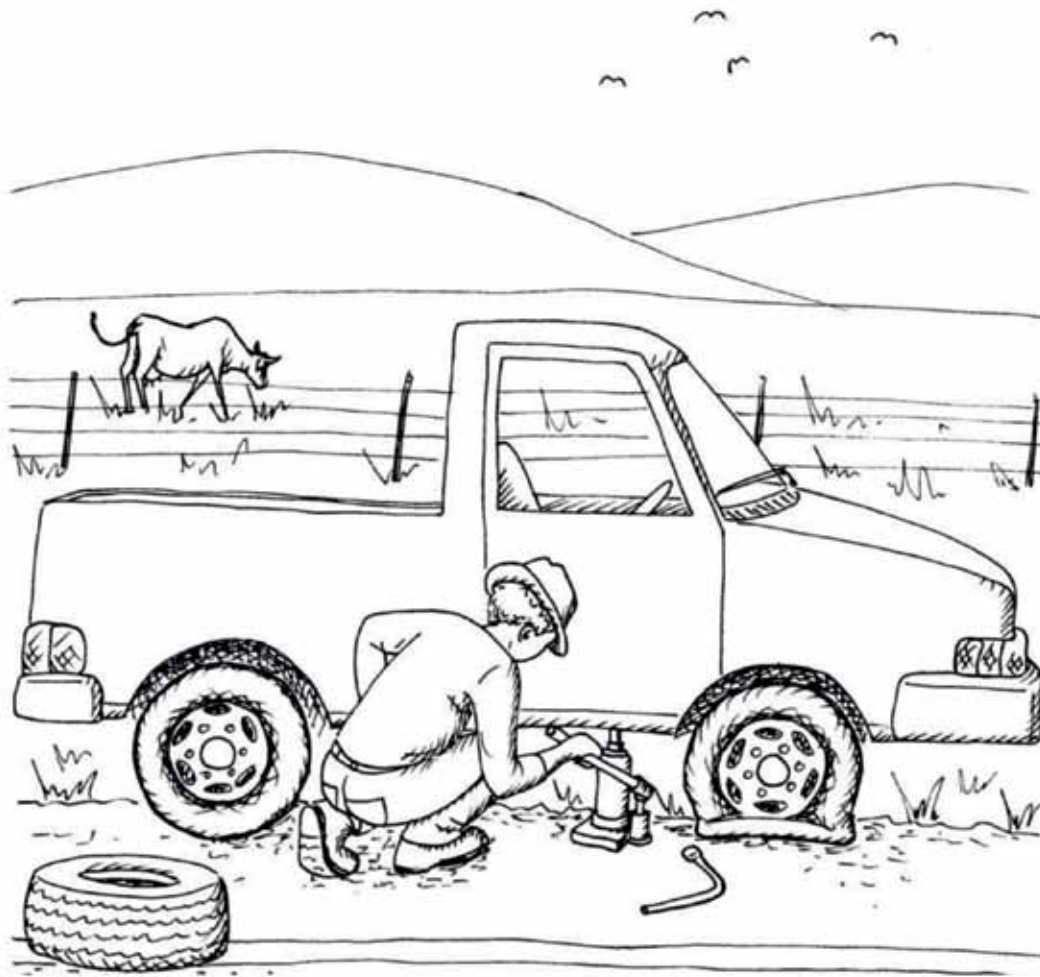

Figure 14
1. Look at Figure 14 on the previous page. Do you think the car will be lifted high enough when the input cylinder is pressed down?